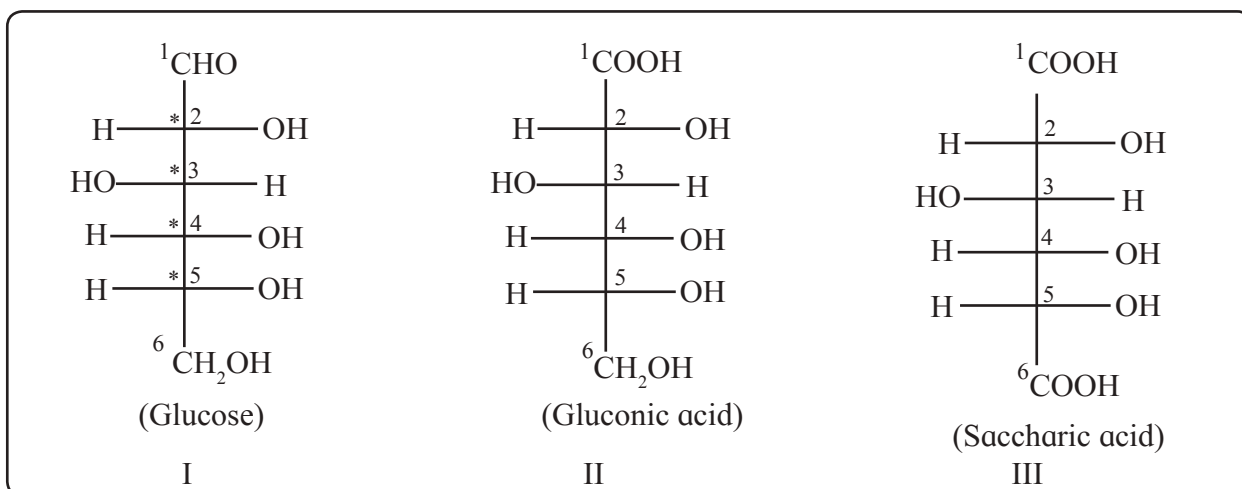

Fig 14.2 : Fischer projection formulae of glucose, gluconic acid and saccharic acid
Figure 14.2 shows the Fisher projection formulae of glucose (I), gluconic acid (II) and saccharic acid (III).
14.2.6 Ring structure of glucose : On the basis of chemical evidence stereostructure of D-glucose was represented by the Fischer projection formula I (Fig. 14.2 and Fig. 14.4). Glucose, however, was found to exhibit some more chemical properties which could not be explained on the basis of the structure I. It was necessary to write another structure for glucose which will explain all the properties. Ring structure of glucose fulfils this requirement.